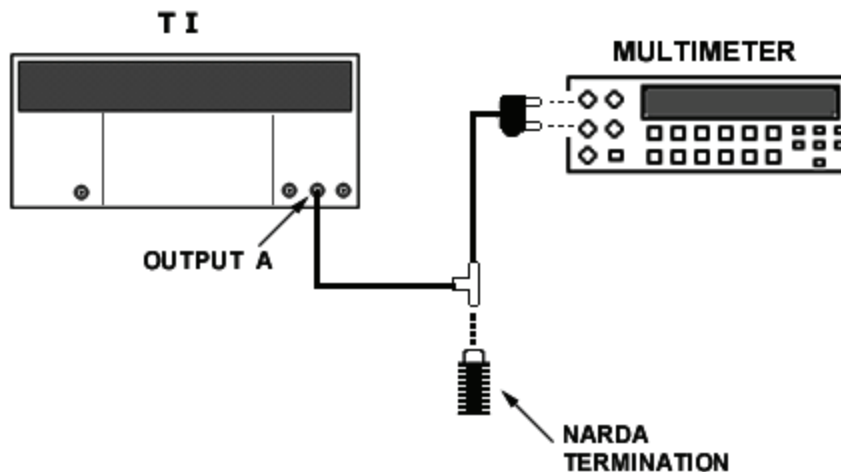

Figure 3. Output - equipment setup.
- (1) Connect equipment as shown in figure 3.
- (2) Press pushbuttons and enter data as listed in (a) through (l) below: (Both channels for option 020).
- (2) Press pushbuttons and enter data as listed in (a) through (l) for both **A** and **B** channels.